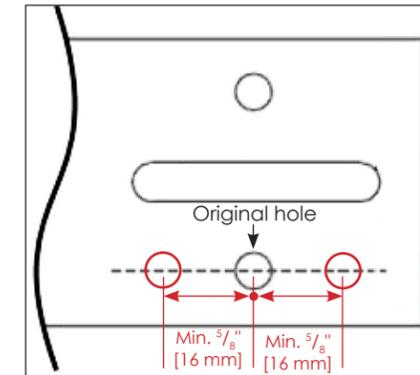
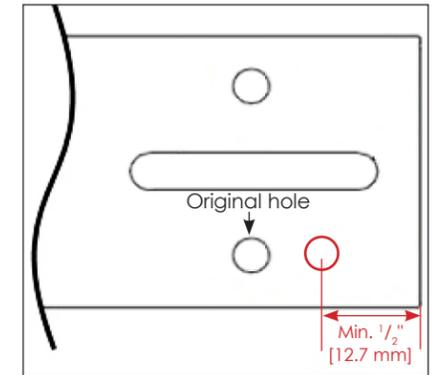
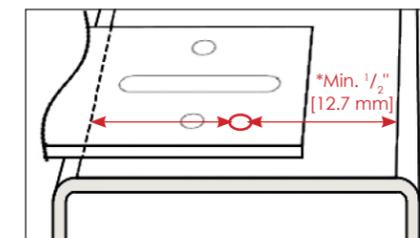
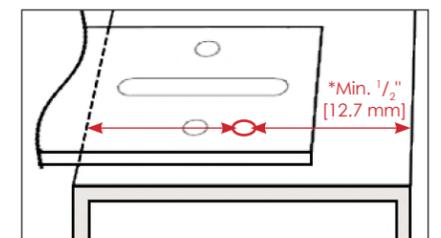

Figure 6: Offset from Hole
Figure 7: Offset from Edge
Figure 8: Offset from Round Edge
Figure 9: Offset from Square Edge
2. Determine the new hole locations based on the design requirements shown in **Figure 6**, **Figure 7**, **Figure 8**, and **Figure 9**.